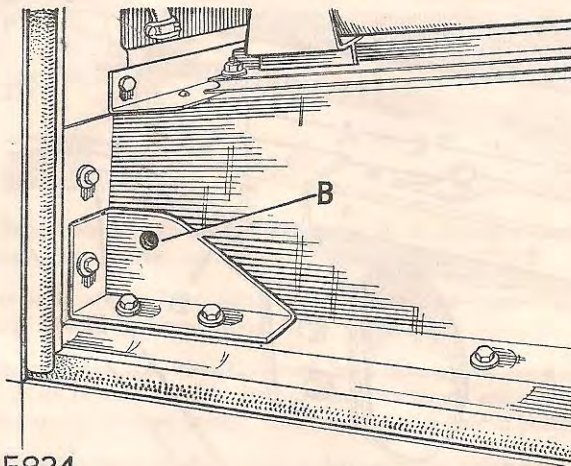

Fig. 1. Sill gusset in position. R.H. illustrated.
3. Secure the sill gusset into the corner position, with the original body fixing bolts as shown in Fig. 1.